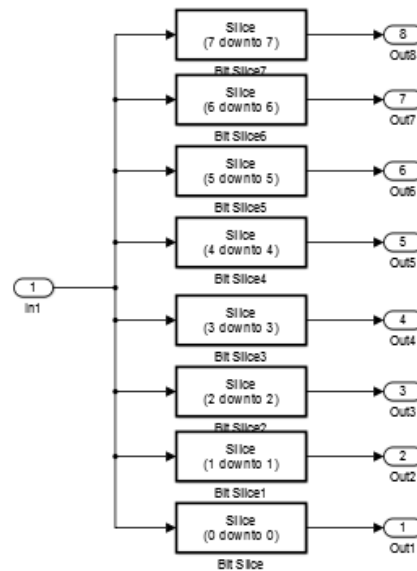

Figure 1 Slicing an 8bit integer into individual bits
7. Connect all components as shown in Figure 1. You can use the ‘Ctrl’ key to connect a component to other components. Note, the design in Figure 1 works for unsigned ints, but not for signed ints. Attempt to fix the most significant bit for signed ints.